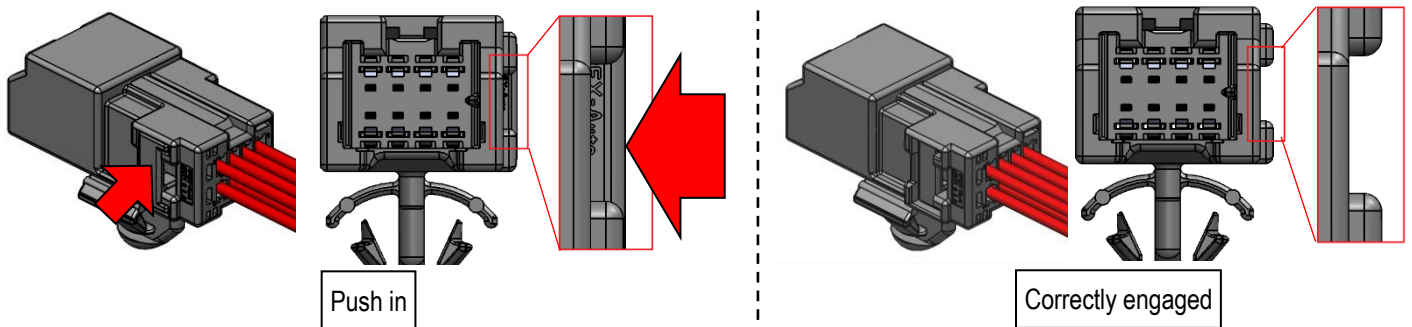

Fig.33 Installation of Retainer
- Push the male retainer perpendicularly to the male housing as shown in Fig.33 after male terminal insertion is complete. You will hear audible click when the male retainer is engaged properly.